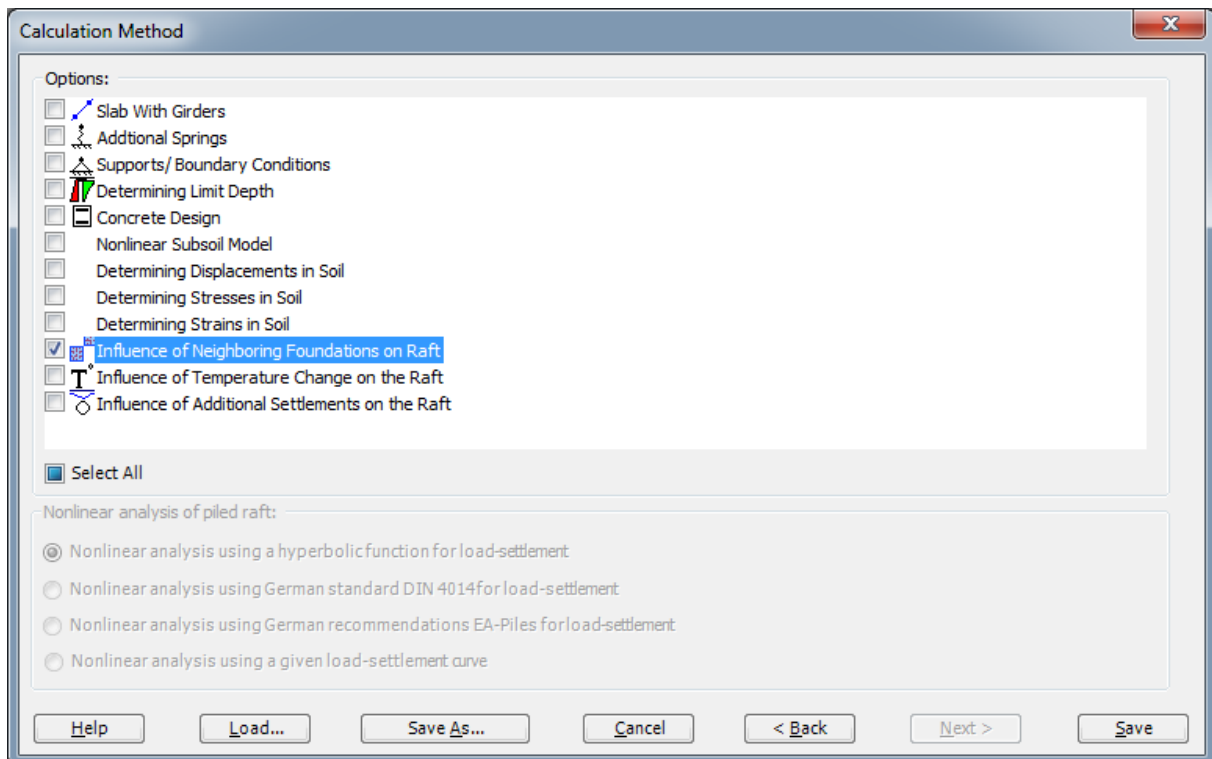

Figure 9.30 "Options" list
- The last form of the wizard assistant contains the "Options" list, Figure 9.30. In this list, check the option "Influence of neighboring foundations on the slab", then click the "Save" button